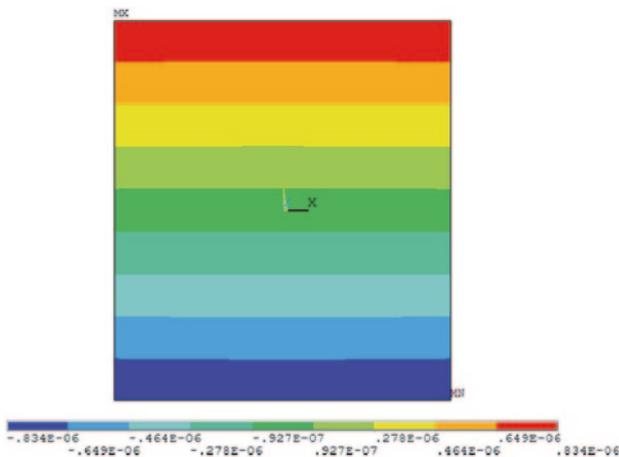

Fig. 8.46 Contour plot of the y -displacement of the composite plate
- The contour plot appears in the *Graphics Window*, as shown in Fig. 8.46.